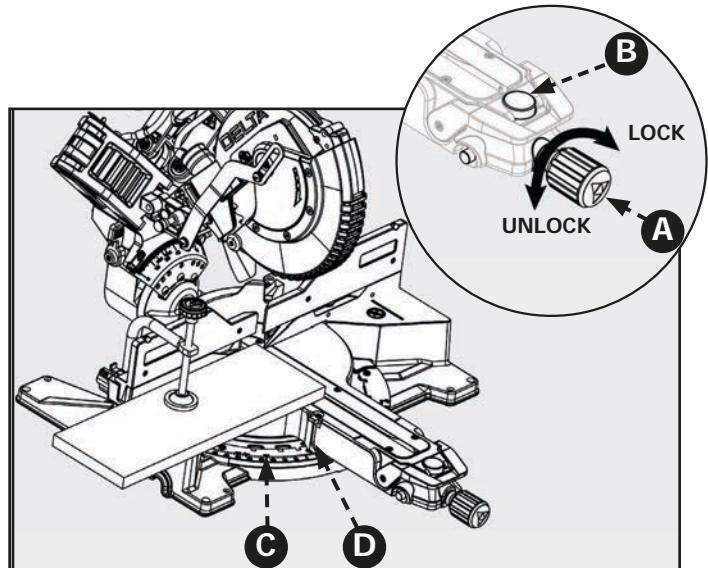

Figure 18
1. See Figure 18
3. Loosen the miter lock knob (A), use your thumb to push in the miter detent lock button (B, and set the miter arm angle to 0 degrees. Use the miter scale (C) and indicator (D) to locate the 0 degree miter position.
4. Release the miter detent button (B) and tighten the miter lock knob (A). Check that saw head is securely locked into position.